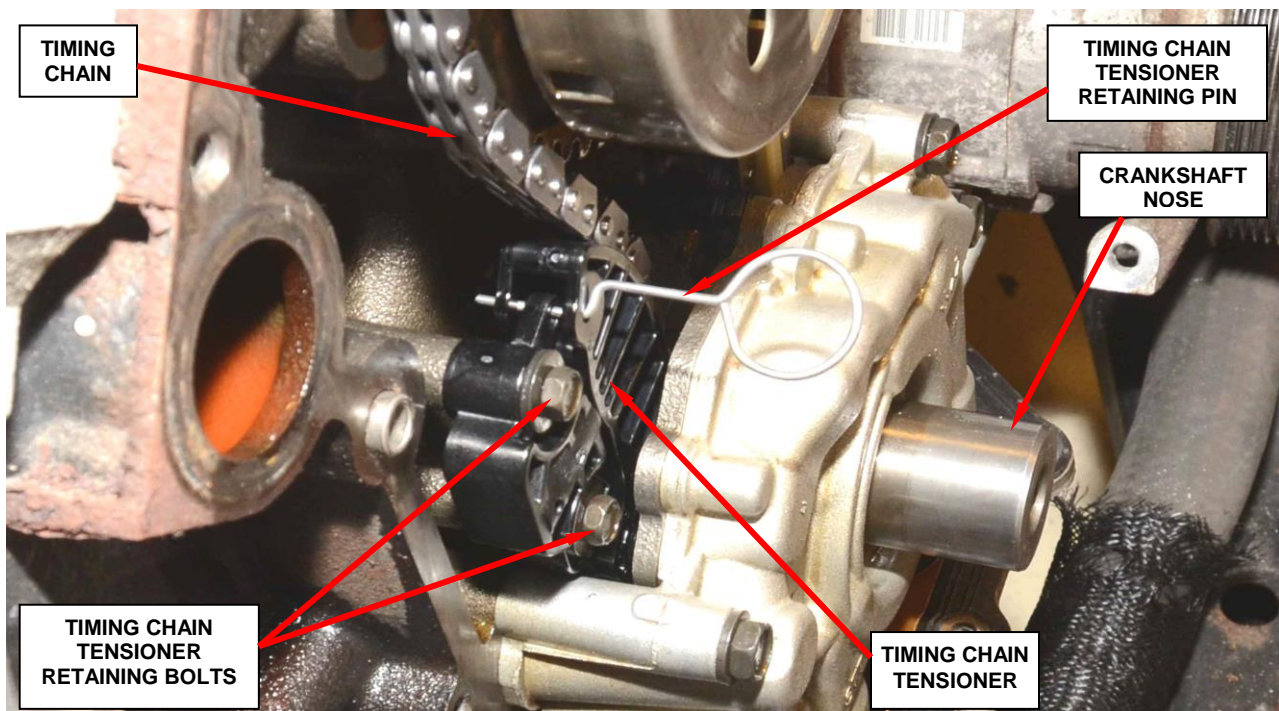

Figure 15 – Install Engine Timing Chain Tensioner
63. Install the new engine timing chain tensioner (Figure 15). Tighten the bolts to 98 in. lbs. (11 N·m).
64. Remove and discard the engine timing chain tensioner retaining pin (Figure 15).